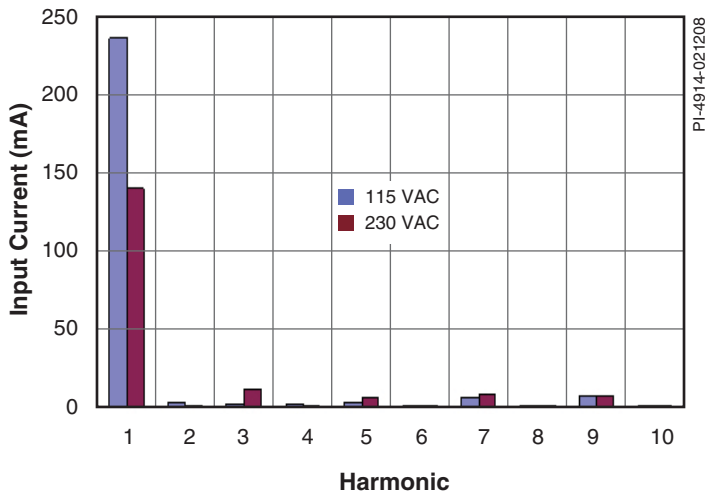

Figure 2. Harmonic Content Measured at 115 VAC and 230 VAC.
- Meets harmonic content limits as specified in IEC 61000-3-2 for Class C Equipment (see Figure 2)